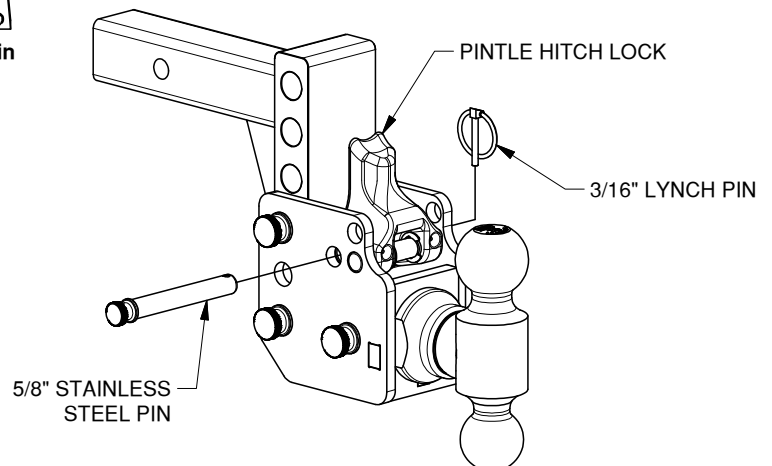

Figure 4: Pintle lock open to tow
- **Using the pintle lock.** The pintle hitch lock sits over the ball and is required when coupling to a ring. The lock has one 5/8" stainless steel pin which locks it into place. When using the pintle hitch ball to tow, remove the stainless steel pin and flip the lock up 90°. The 5/8" steel pin should be placed in the lower hole to keep the lock in this position, see Figure 4. The 3/16" lynch pin must be installed to hold the 5/8" pin while towing.